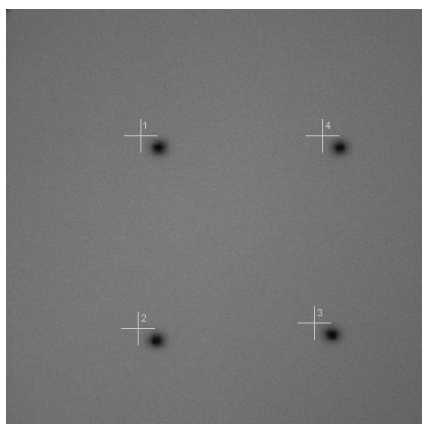

Fig. 137 Image of dye layer after bleach
- Re-scan the image (Fig. 137). The bleached spots should be visible.